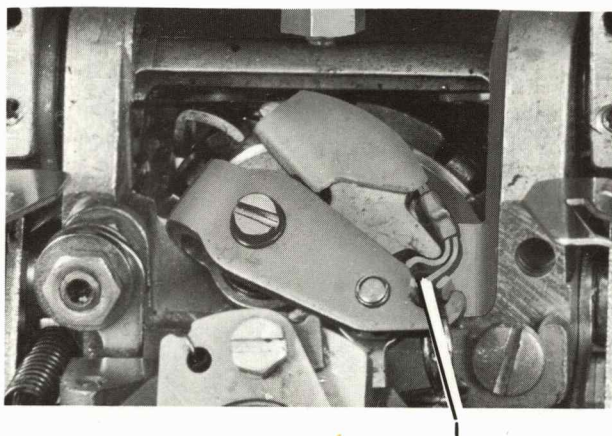

FIGURE 19. Tilt Tape Replacement
5. Place the eyelet on the tilt pulley bellcrank (#1, Figure 19).